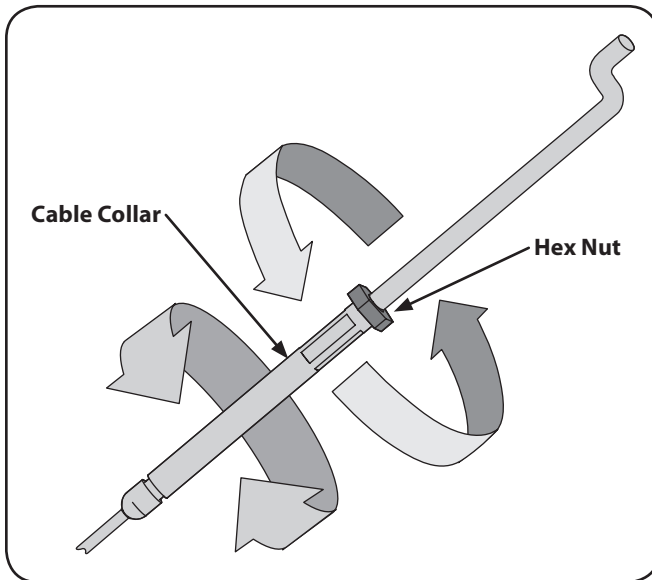

Figure 3-8
2. Adjust either the forward or reverse clutch cable by loosening the hex nut. See Figure 3-8.
3. Turn the cable collar section one or two turns to increase or decrease tension on the cable. See Figure 3-8.
4. Retighten the lock nut against the cable collar. See Figure 3-8.